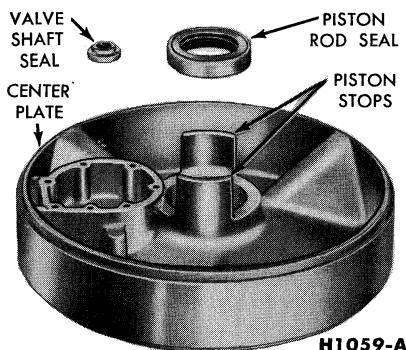

FIG. 45—Fast Application Valve and Piston Rod Seals
21. Remove the valve shaft and piston rod seals (Fig. 45).
7. Press the fast application valve shaft and rod seals (Fig. 45), into the center plate. The piston valve shaft seal must be flush with the bottom of the hole. The piston rod seal should rest against the shoulder of the center plate.